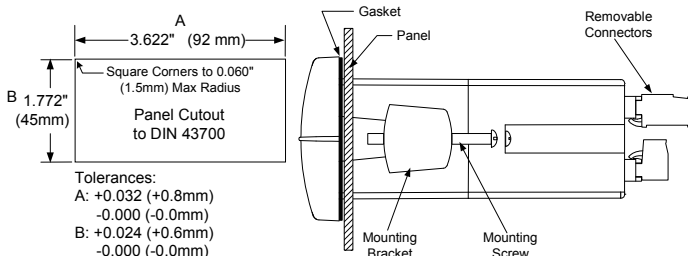

Figure 1: 1/8 DIN Panel Mounting
- Prepare a standard 1/8 DIN panel cutout – 3.622" x 1.772" (92 mm x 45 mm). Refer to Figure 1 for more details.